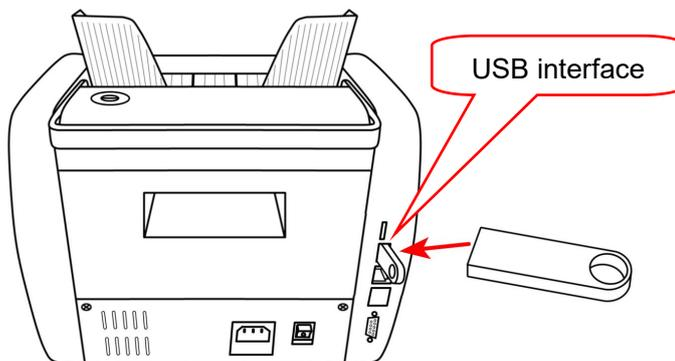

Figure 89
1) Insert the U-disk into the USB interface of the machine when the machine is off, as shown in Figure 89.below: